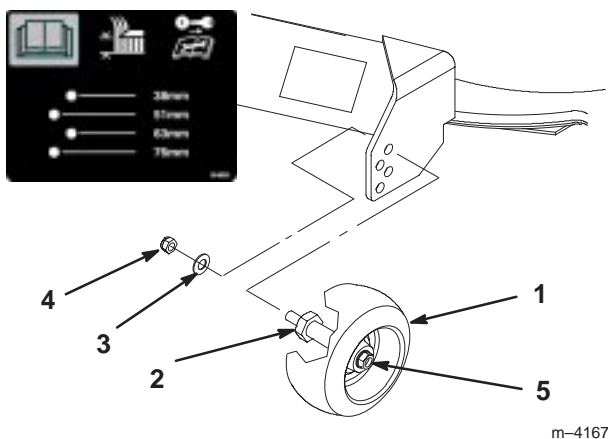

Figure 25
2. After adjusting height-of-cut remove nut and washer while holding stud with wrench (Fig. 25).
3. Select hole so gage wheel is positioned to the nearest corresponding height-of-cut desired (Fig. 25).
4. Reinstall the stud nut and washer (Fig. 25).
Note: Do not remove the wheel nut and washer (Fig. 25).